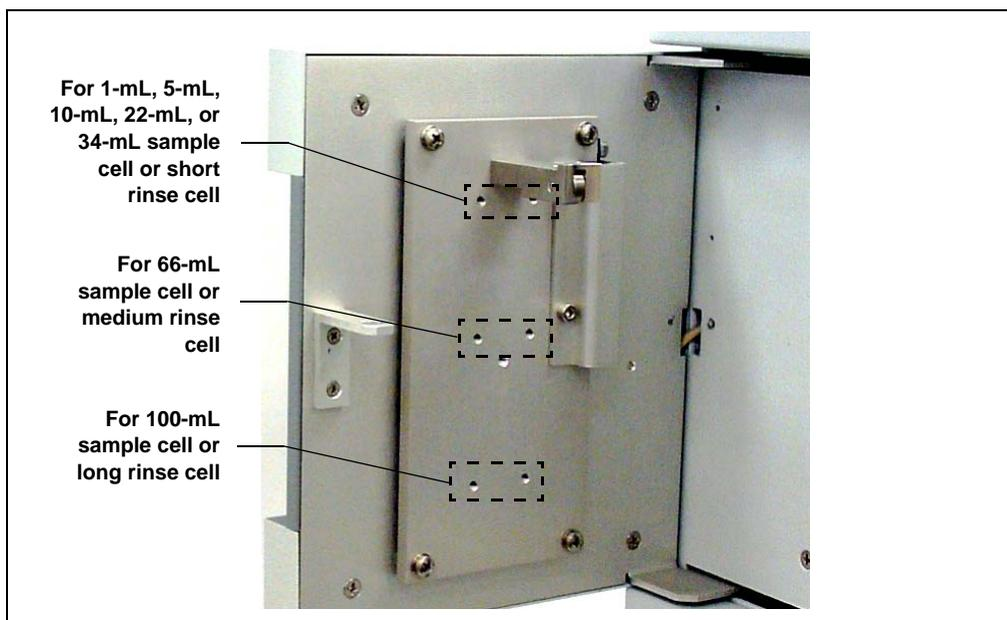

Figure B-7. Mounting Sites for the Cell Holder Lower Latch
When the Dionex ASE 150 is shipped from the factory, the cell holder is positioned to hold a 100-mL sample cell (or a long rinse cell). To accommodate a cell of any other size, move the lower latch of the cell holder (see Figure B-6) to the appropriate mounting site on the cell door (see Figure B-7).
3. Position the latch in the new location on the cell door (see Figure B-7) and install the hex screws. When the latch is correctly installed, the small tab is on the underside of the latch (see Figure B-6).